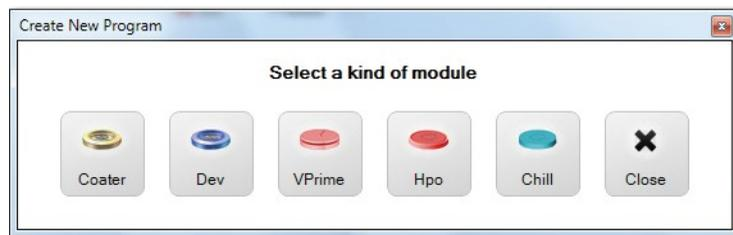

FIGURE 3-17: Selecting a module
- Click **New**. The Select a module dialog box opens. See Figure 3-17.